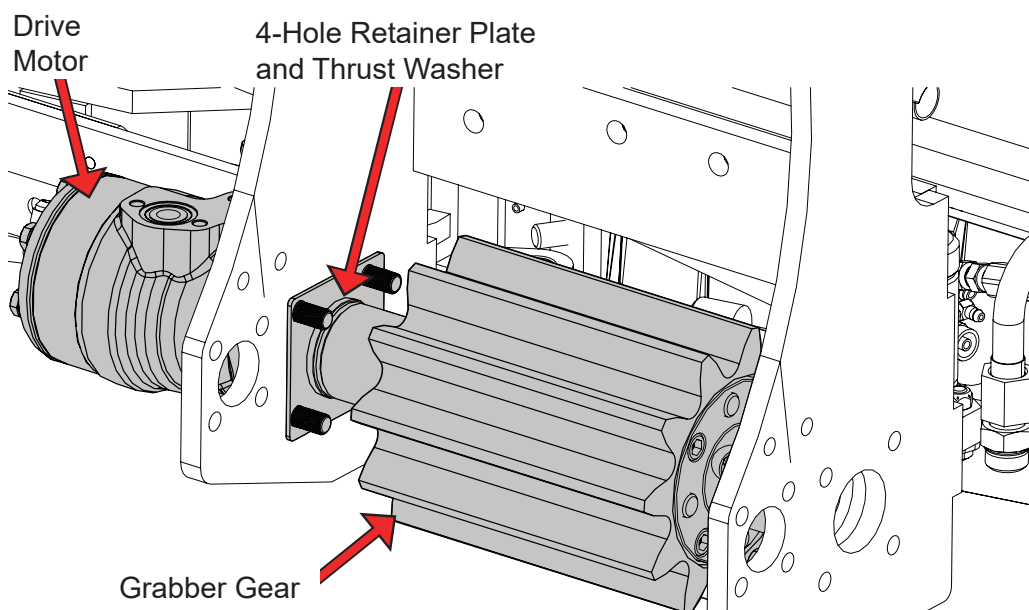

Figure 15
4. Install the grabber gear onto the drive motor spline (Figure 15).
5. Apply one (1) drop of Loctite 263 to each stud. Do not apply more than one drop.
6. Install a locknut (PN 1141067) per stud (on the fine threaded end of the stud) on the **drive motor** (Figure 15).